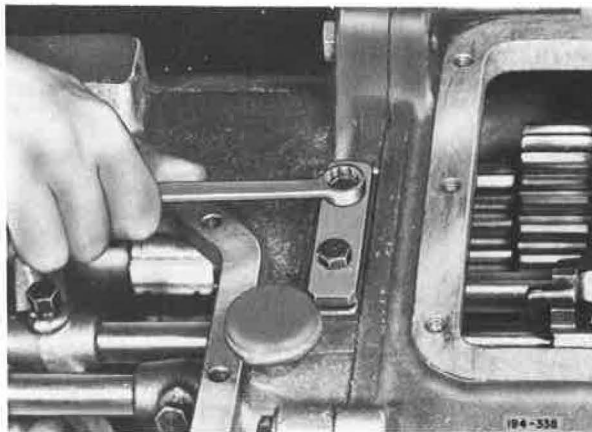

Figure 5-117. Tightening Shift Rail Poppet Ball Cover Capscrews
32. Install poppet ball cover with capscrews and tighten capscrews to recommended torque. See Figure 5-117.